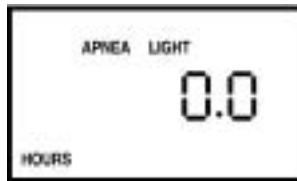

Figure 6-4 Standby Screen
- d. The next screen that appears is the Standby screen, shown in Figure 6-4. This indicates that the Harmony is in the Standby state.